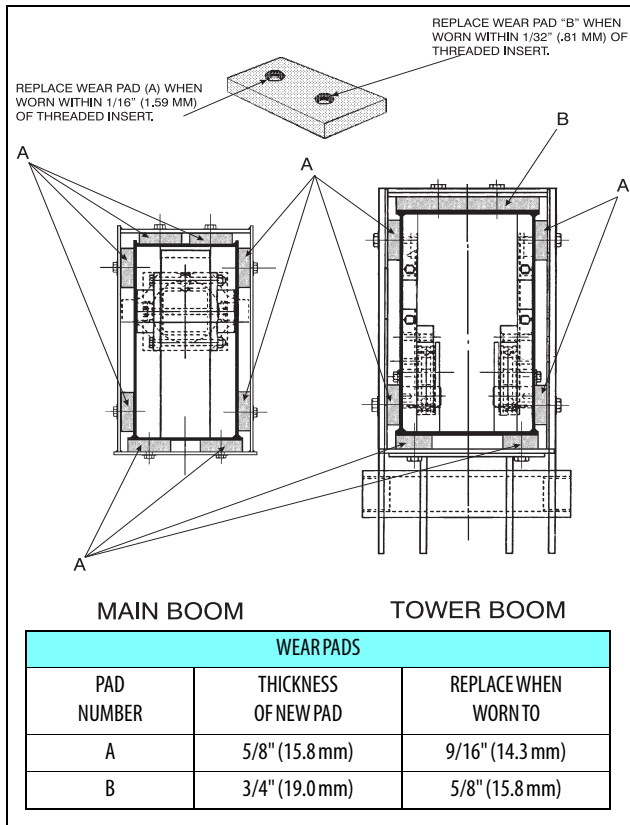

Figure 4-22. Location And Thickness Of Wear Pads
2. Replace wear pads when worn within 1/16 inch (1.59 mm) and 1/8 inch (3.18 mm) - B, C, D of threaded insert. See Figure 4-22., Location And Thickness Of Wear Pads